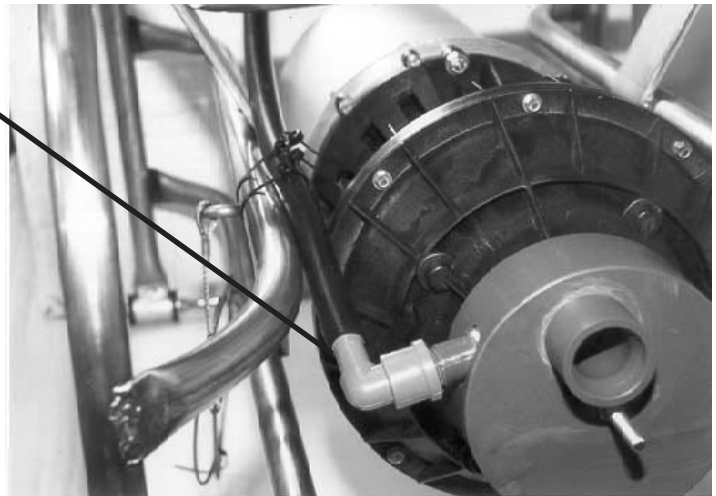

Figure 7
*H. Attach the aspirator tubing to the barbed fitting on the venturi assembly. (Refer to figure 7).